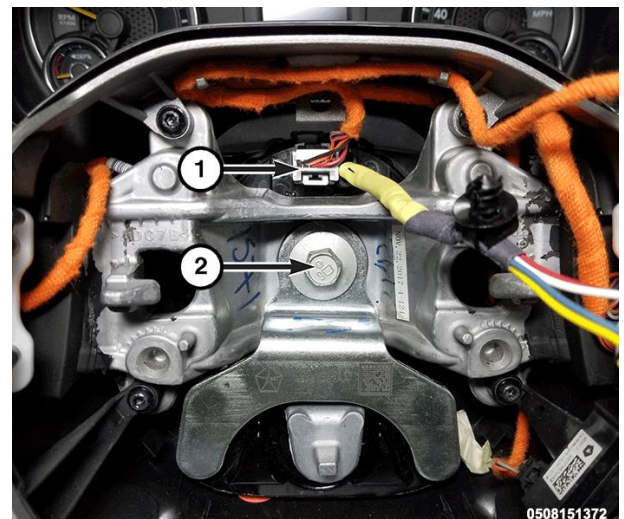

Figure 4 – Steering Wheel Wire Harness Connectors
14. Disconnect the steering wheel wire harness connectors (1) (Figure 4).
16. Remove and **DISCARD** the steering wheel bolt (2) and retain the damper if equipped (Figure 4).
12. If equipped, position the damper to the steering wheel, then install a **NEW** steering wheel bolt (2) and tighten the nut to 61 N·m (45 ft. lbs.) (Figure 4).